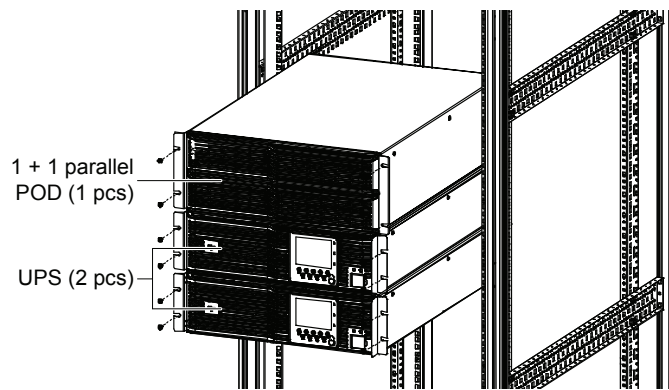

Figure 3-1 1 + 1 parallel system installation (without battery module)
2. As shown in Figure 3-1, the battery module should be installed at the bottom; and the 1 + 1 parallel POD should be installed on the top, so as to facilitate the cable connection and operation. The installation method of 1 + 1 parallel POD is the same as that of the UPS.